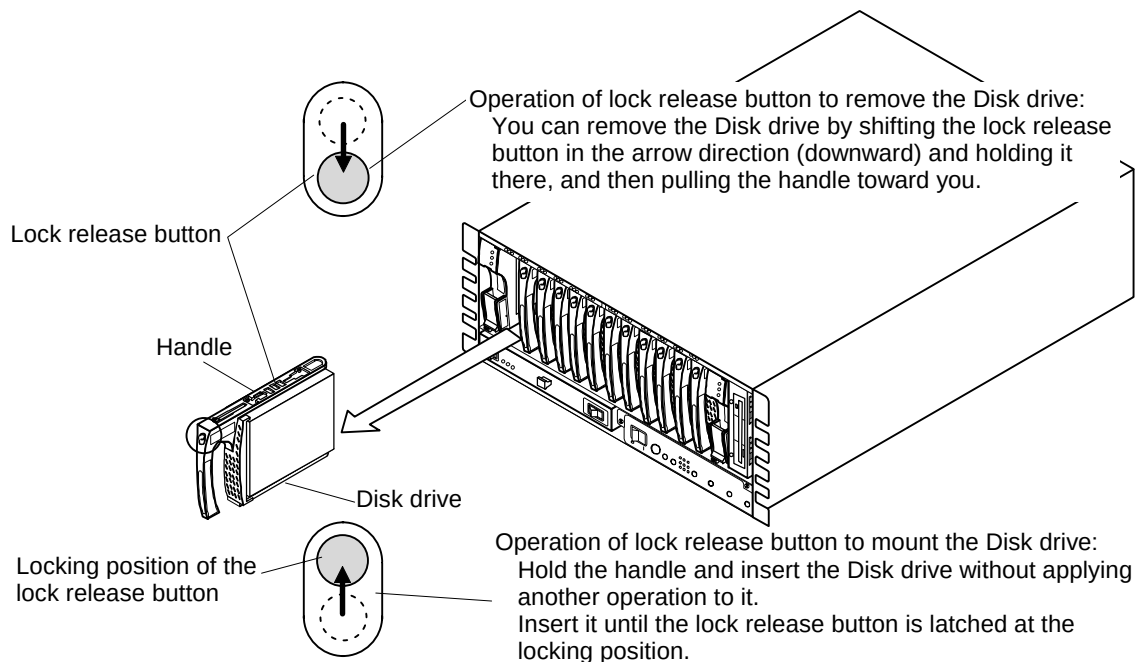

Figure 4.3.3 Operation of Lock Release Button of Disk Drive
- (e) Wait for more than 20 seconds, and then insert a new Disk drive taking care not to apply any shock to it. (See Figure 4.3.3.)
Operate the lock release button on the Disk drive and mount the Disk drive slowly taking care not to apply any shock to it. (See Figure 4.3.3.)
To replace Disk drive, refer to Figure 4.3.3.